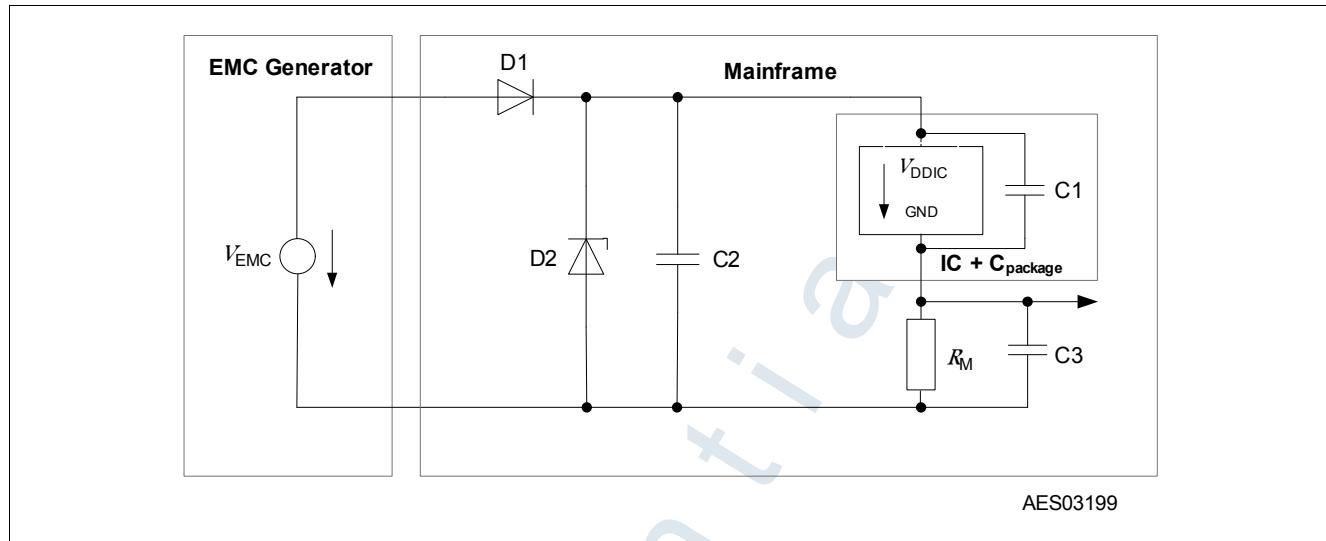

Figure 9 EMC test circuit
**Electromagnetic Compatibility (values depends on  $R_M$ !). See Figure 9**